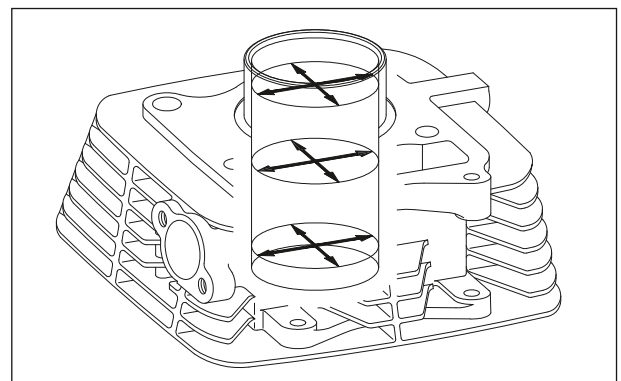
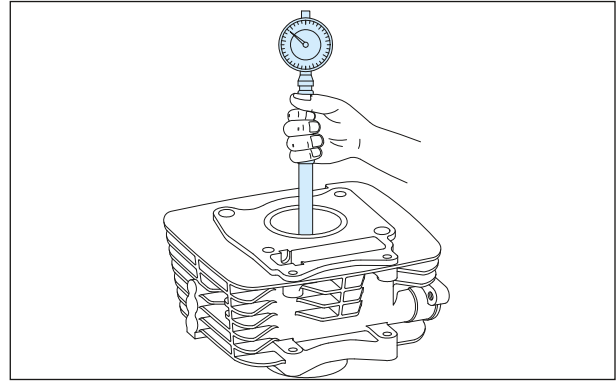

Fig. 3.95
Fig. 3.96
- The wear of the cylinder wall is determined from the diameter reading taken at three locations from the top of the cylinder. (Fig. 3.95 and Fig. 3.96)
- Set the dial of the bore gauge using this diameter on the micrometer. Measure the bore diameter at 20 mm from the cylinder top surface. (Fig.3.96)